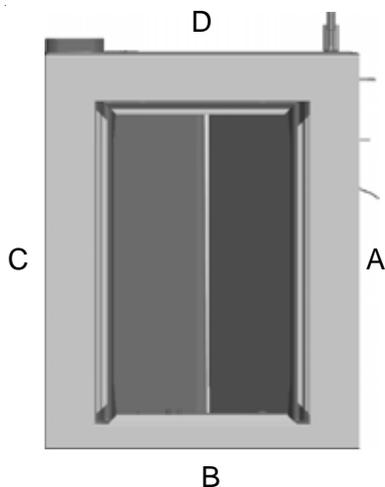

FIGURE 1
2. Identify sides A, B, C and D of the insulation and drain pan as shown in Figure 1. (Side D is wider than side B.)